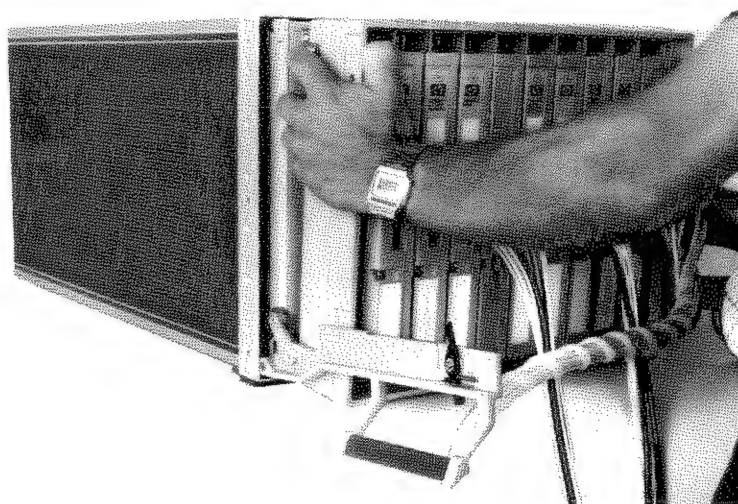

Figure 44. Installing Loaded Fixture Onto Mounting Bars.
Refer to Figure 44 to install a loaded fixture onto mounting bars.
3. Set the bottom of the QIF on the bottom mounting bars first as shown in Figure 44.